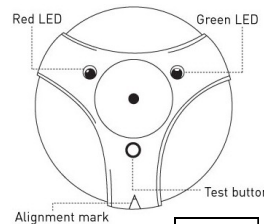

Figure 1
1. Push the test button for 2 seconds and then release it. The red LED will light while the button is pressed. The green LED will blink once to indicate that the unit is in auto test mode for 90 seconds (see *Figure 1*).
2. Activate a glass break simulator in the area of the window or windows that you are attempting to protect with the glass break detector. The Glass Break Detector should first acknowledge the detection of a thud sound by illuminating the green LED and then illuminate the red LED when the unit detects the crash portion of the glass breaking sound (see *Figure 1*).
Push and hold the test button for 5 seconds and then release it. The red LED will light while the button is pressed. The green LED will blink twice to indicate that the unit is in RF test mode for 90 seconds (see *Figure 1*).